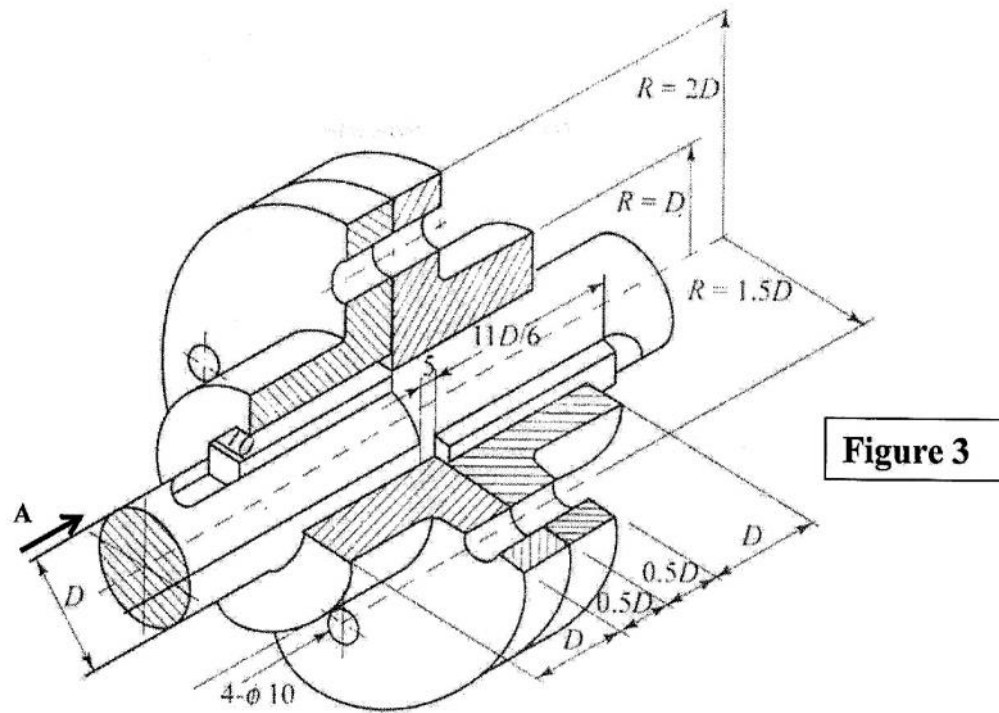

Figure 3
- Q.6.** Figure 3 shows the details of unprotected type flange coupling. Assemble the given parts and draw the side view of the assembly looking in the direction of arrow "A". Assume $D=30$ mm. 4×5